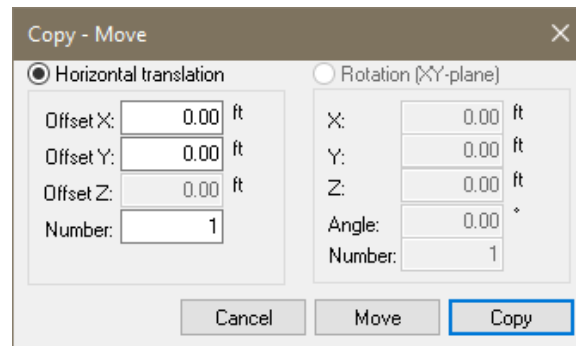

Figure 2-30
- Go to *Modify* → *Copy/Move* and click on the *By Coordinate*  icon. This will open up the *Copy - Move* window as shown in **FIGURE 2-30**.